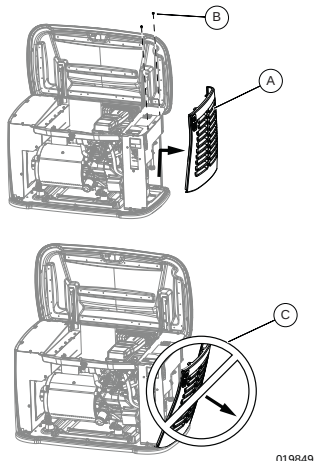

Figure 2-5. Intake Side Panel Removal
See Figure 2-5. Intake side panel (A) must be removed to access battery compartment, dual shutoff valve, and sediment trap.